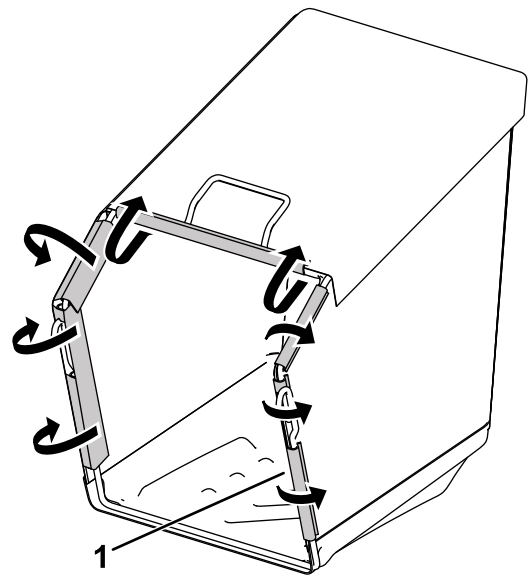

Figure 7
3. Attach the plastic clips to the grass-bag frame (Figure 7).